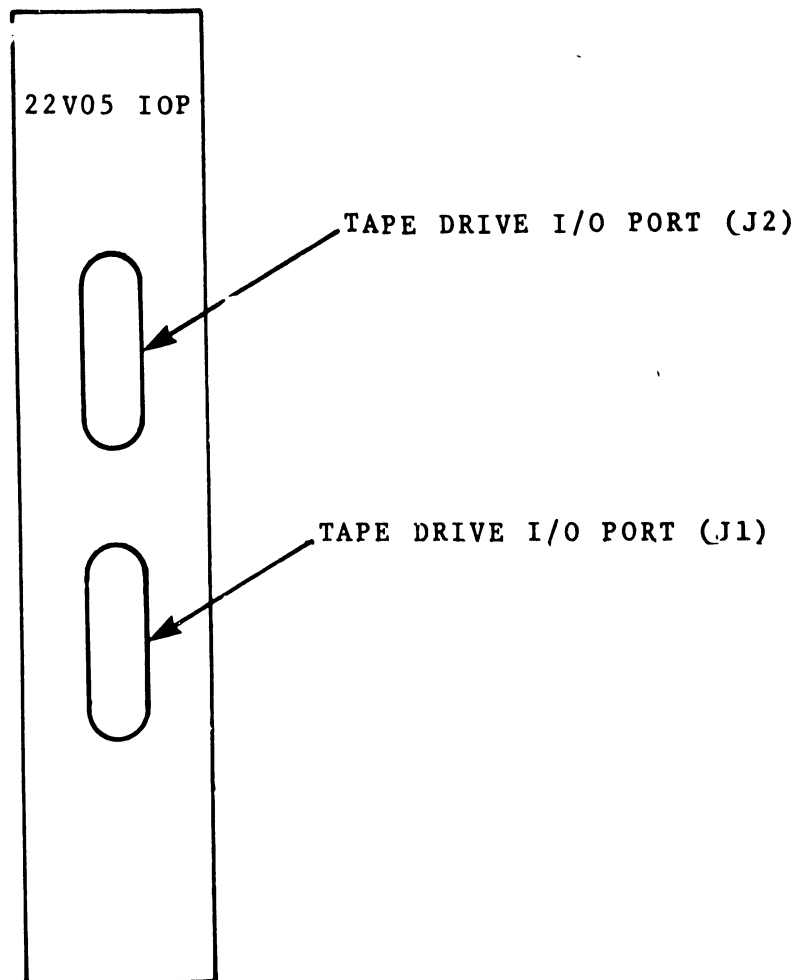

FIGURE 4-99 TOP VIEW OF 22V05 IOP
- B. Attach the other end of the I/O cable to the 22V05 IOP in the mainframe (see Figure 4-99). The cable should run from J101 at the rear of the formatter assembly, through the cable entrance space at the rear of the drive cabinet, and through the cable entrance space in the rear base of processor mainframe.
- C. The connector on cable J2 should be attached to port J2 on the 22V05 IOP. (See Figure 4-99)